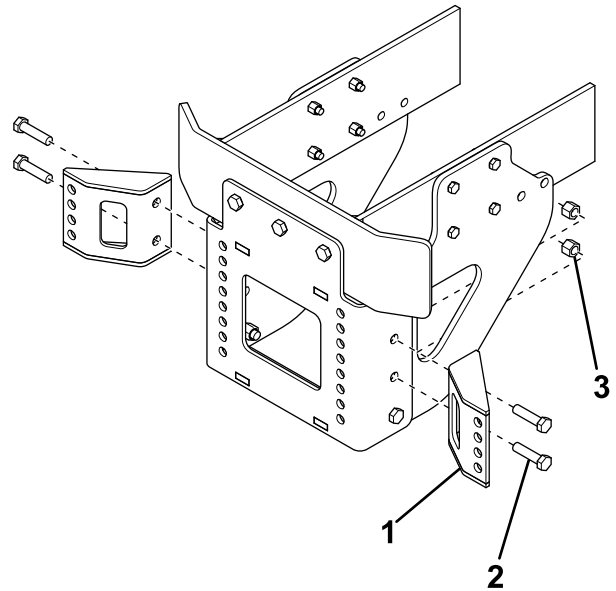

Figure 5
7. Secure the side gussets to the side plates using 4 bolts (1/2 x 2 inches) and 4 nuts (Figure 5).